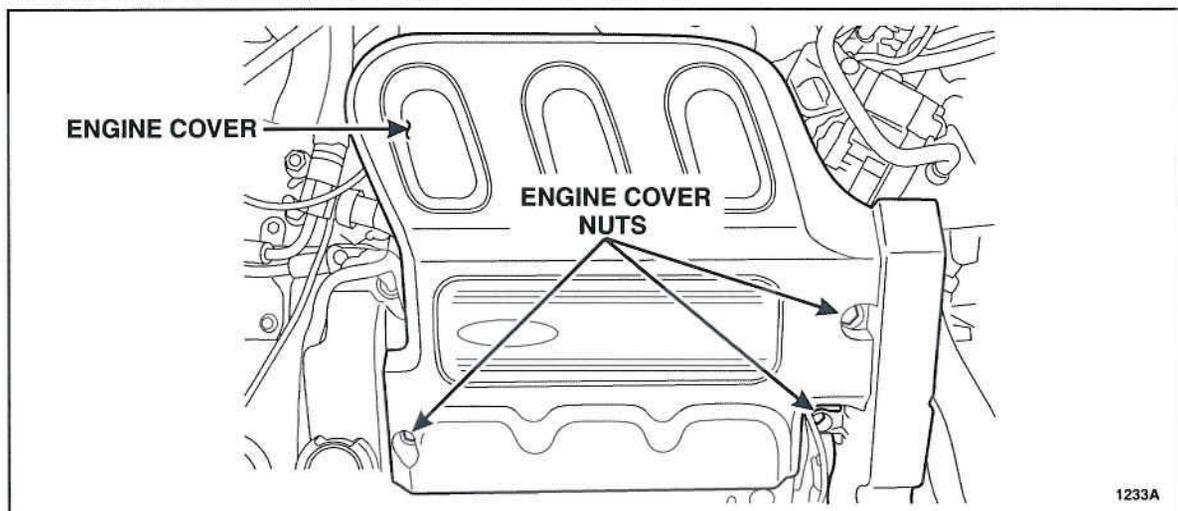

FIGURE 1
1. Remove the three nuts and the engine cover. See Figure 1.
6. Reinstall the engine cover and tighten the three nuts. See Figure 1.